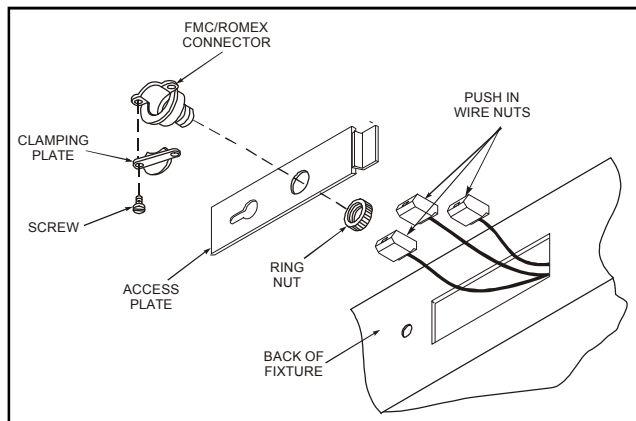

Figure 2
1. Remove the cover plate from the back of the fixture housing (Figure 2).
5. Install the cover plate on the back of the fixture and secure it as shown in Figure 2.
1. Remove the diffuser by gently pushing in the front edge of the diffuser slightly and pulling it down and away from the front lip of housing. See Figure 2.